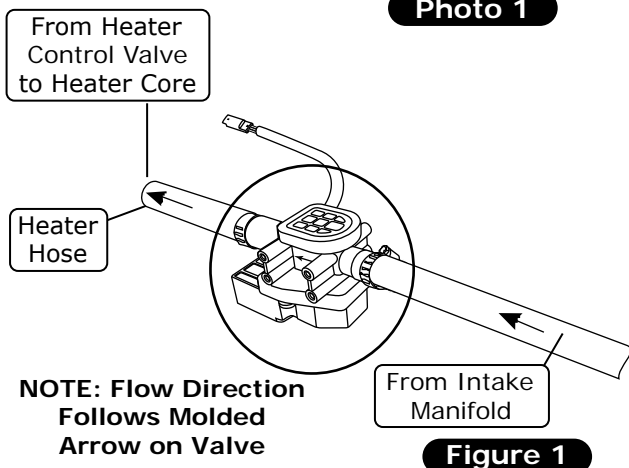

Figure 1
1. Route a length of heater hose from the lower heater hardline to the OEM heater hardline connected to the water pump, and secure it using (2) hose clamps (See Photo 1, below). **NOTE: A molded 90° heater hose was used in this installation and is not included in the kit.**
2. Cut the upper heater hose approximately 13" and attach it to the heater control valve. Secure it using a hose clamp as shown in Photo 2, below. **NOTE: Ensure proper flow direction through the heater control valve. The flow direction follows the molded arrow on the valve (See Figure 1, below).**
3. Attach a length of heater hose approximately 14" to the heater control valve (See Photo 3, below), then attach the heater hose to the OEM heater hardline connected to the intake manifold. Secure using (2) hose clamps (See Photo 4, below).